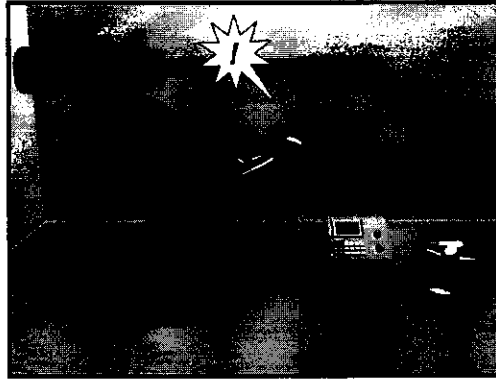

FIGURE Q1(c)
c) Referring to the Figure Q1(c), propose the safety sensor system that can be taken in work cell design to anticipate all possible mishaps that might occur during the operation of the cell.